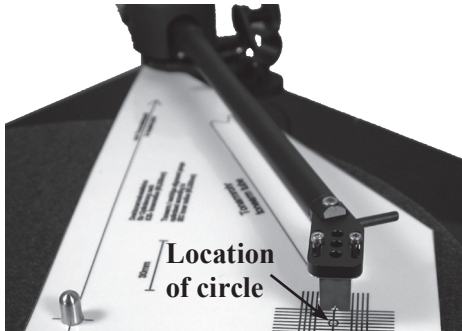

Figure 27
- With the Anti-Skate Adjustment set to minimum (refer to figure 37), carefully place the Tone Arm onto the Alignment Gauge with the diamond tip of the stylus on the center of the small circle located between the parallel lines. Refer to figures 27 and 28.